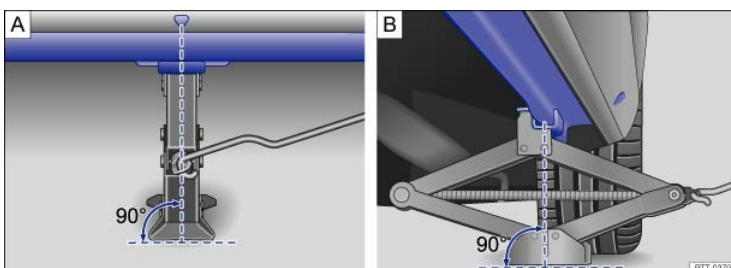

Fig. 197 Jack in position at the left rear lift point.
- Position the jack only at the described vehicle lift points. Before you raise your vehicle, always make sure the jack claw properly grips the vertical rib under the sill so that the jack does not slip off when you are raising the vehicle ⇒ Fig. 197.
- Position the jack only at the described vehicle lift points. Before you raise your vehicle, always make sure the jack claw properly grips the vertical rib under the sill so that the jack does not slip off when you are raising the vehicle ⇒ *Fig. 197*.